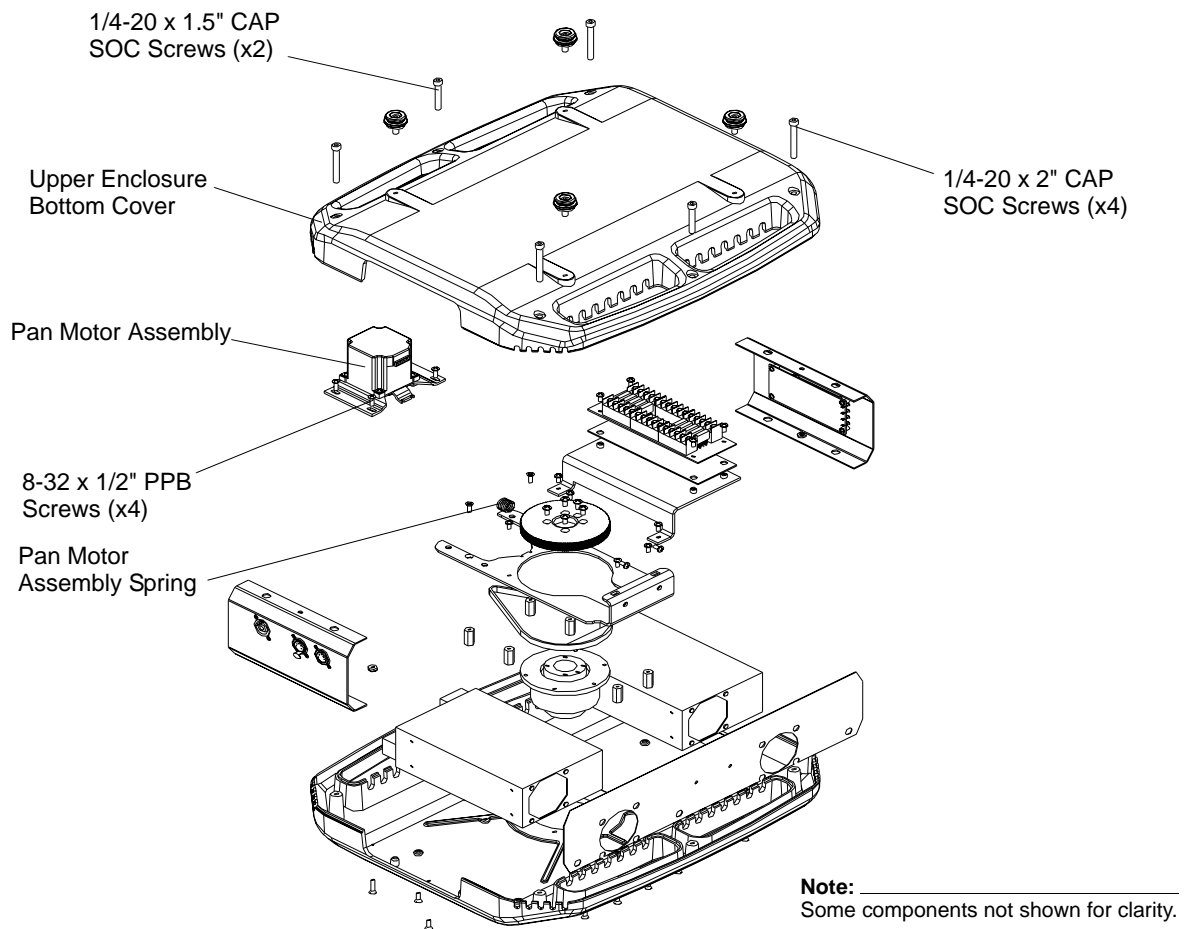

Figure 2-60: VLX Wash Pan Motor Assembly
- Step 3. Using 3/16" hex wrench and as indicated in Figure 2-60, remove four 1/4-20 x 2" CAP SOC screws and two 1/4-20 x 1.5" CAP SOC screws and remove base cover.
- Step 6. As shown in Figure 2-60, remove four 8-32 x 1/2" PPB screws that mount motor assembly